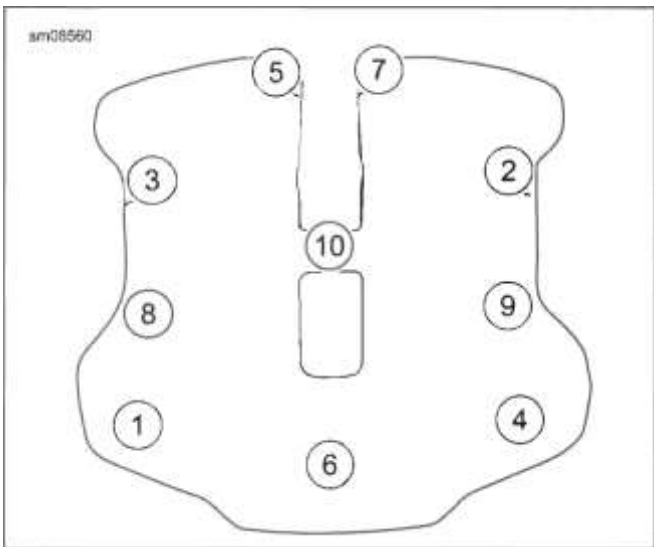

Figure 4-18. Rocker Cover Tightening Sequence
- c. Secure stud (4) to prevent rotation when tightening center screw.
- d. See Figure 4-18. Tighten in sequence shown.